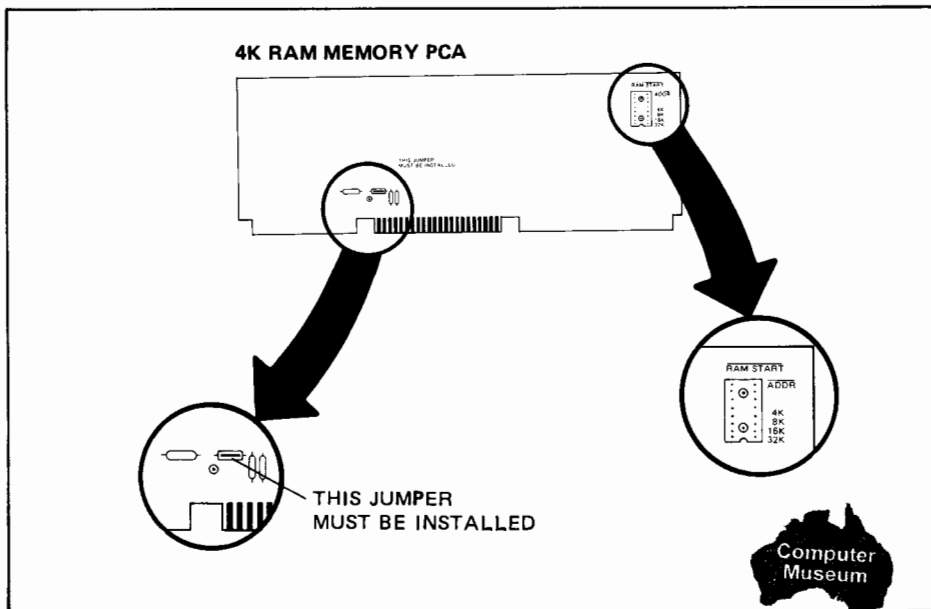
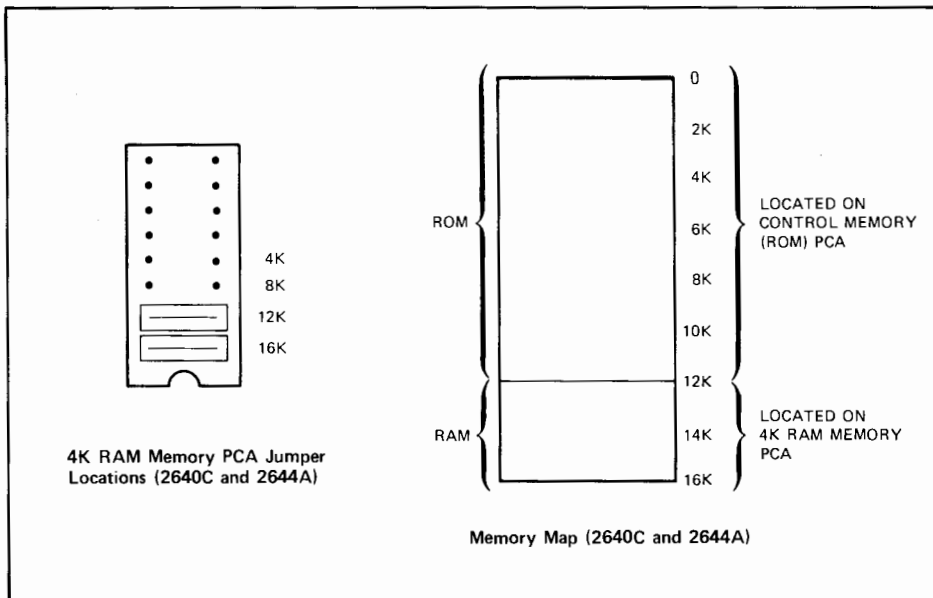

Figure 3-6. 4K RAM Memory PCA Jumper Locations
Figure 3-7. +4K Memory PCA Strapping for 2640C and 2644A Terminals
1. Ensure that a jumper is installed in the unlabeled jumper location near the “-5” test point in the lower center of the PCA (figure 3-6).
3. Strap the 4K RAM Memory PCA to indicate the starting address of the block of memory on the PCA. See figure 3-6 for the jumper locations. Terminals 2640C and 2644A must be strapped as shown in figure 3-7. See the examples for further clarification on strapping of the other terminals.